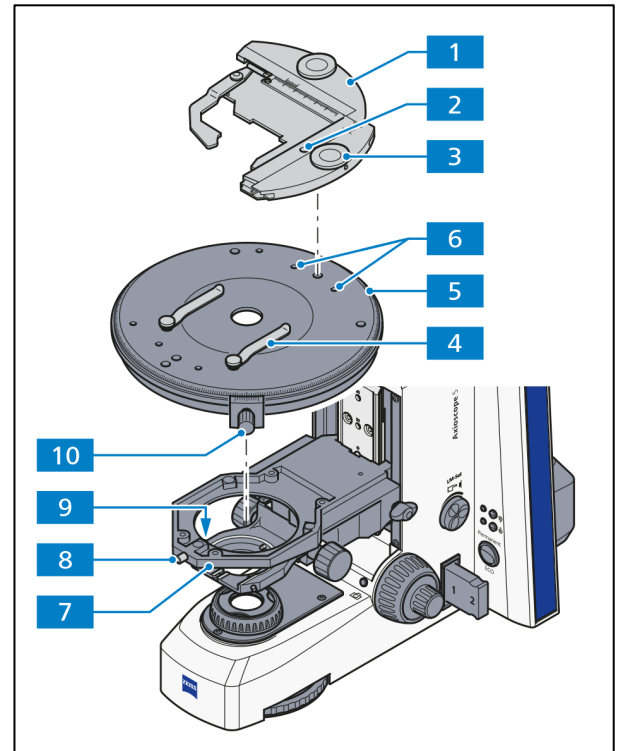

Fig. 3-16 Changing the Pol rotary stage with click stop, attachable Pol object guide and stage clips
- Loosen the screw cap (Fig. 3-16/8) of spring pin with about 3 turns.
- Push the Pol rotary stage (Fig. 3-16/5) to the front against the spring-loaded pin (Fig. 3-16/9), lift it off the stage carrier (Fig. 3-16/7) at the back and remove it upwards.
- Retighten the screw cap (Fig. 3-16/8).
- If necessary, loosen the screw cap (Fig. 3-16/8) of the spring pin with about 3 turns.
- Place the Pol rotary stage with the groove of the dovetail (stage bottom) on the spring-loaded pin (Fig. 3-16/9).
- Attach the rotary stage (432035-9191-000) with the clamping screw (Fig. 3-16/10) pointing to the front right.
- Push the Pol rotary stage to the front against the spring-loaded pin and lower it at the back into the stage carrier (Fig. 3-16/7), then release it.
- Turn the control wheel (Fig. 3-16/3) of the Pol object guide (Fig. 3-16/1) until the clamping screw becomes visible in the mounting hole (Fig. 3-16/2).
- Insert the stage clips (Fig. 3-16/4) into the holes on the stage provided for this purpose.
- Remove stage clips (Fig. 3-16/4) from rotary stage Pol.
- Insert the Pol object guide (Fig. 3-16/1), introducing the two cylindrical pins on its underside into the respective holes (Fig. 3-16/6) and tighten the clamping screw firmly (Fig. 3-16/2). Where required, turn the control first to make the clamping screw accessible.